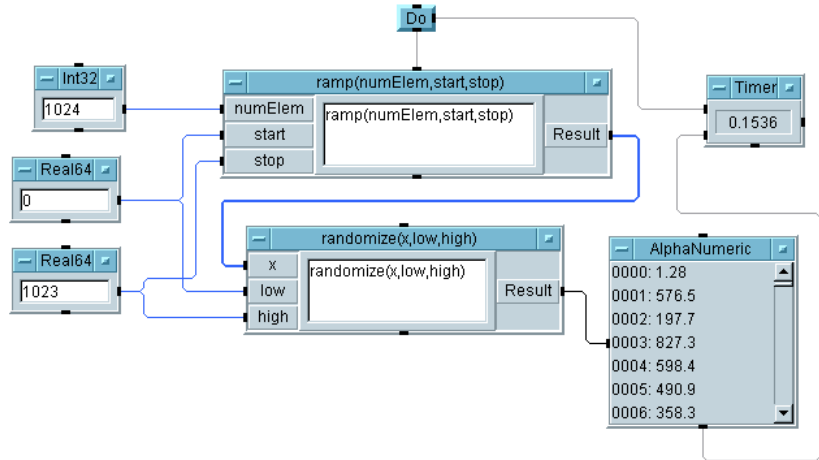
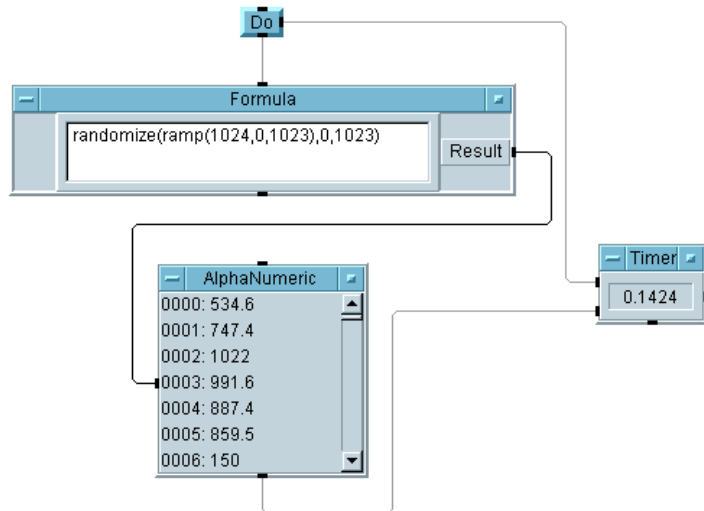

Figure 11-4. Function Calls without Optimization
Figure 11-5. Function Calls with Optimization
2. Nest function calls within other function parameter lists. For instance, in Figure 11-4, the function *randomize* uses the array generated by the function *ramp*. In Figure 11-5, the function call to *ramp* is nested in the call to *randomize*, resulting in slightly faster program execution.